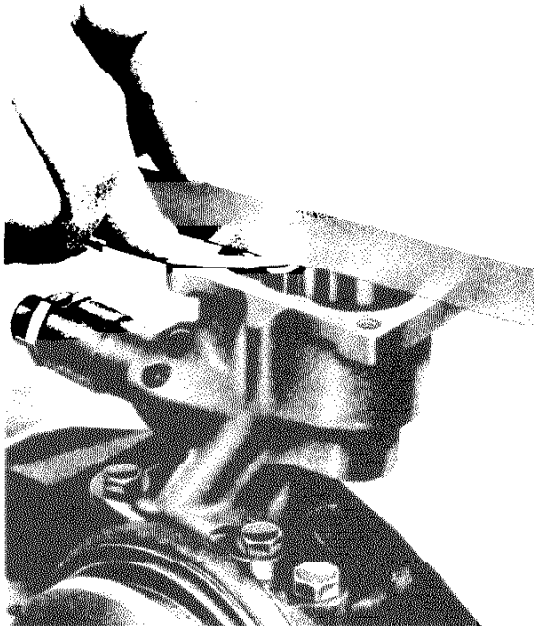

Figure D15.
- (iii) That the idler gear pin is below the fitting face of the cover and strainer assembly (Fig. D15).